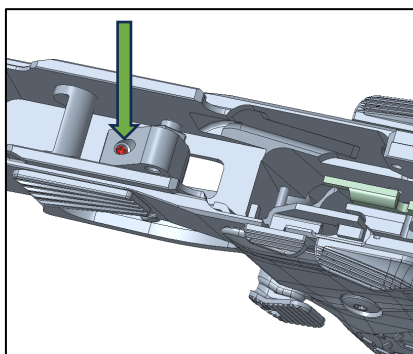

Figure 51: Trigger stop adjustment screw
2. The adjustment screw (Figure 51) is accessed from the top of the frame through the Unlocking block and is located just behind the Disassembly lever.